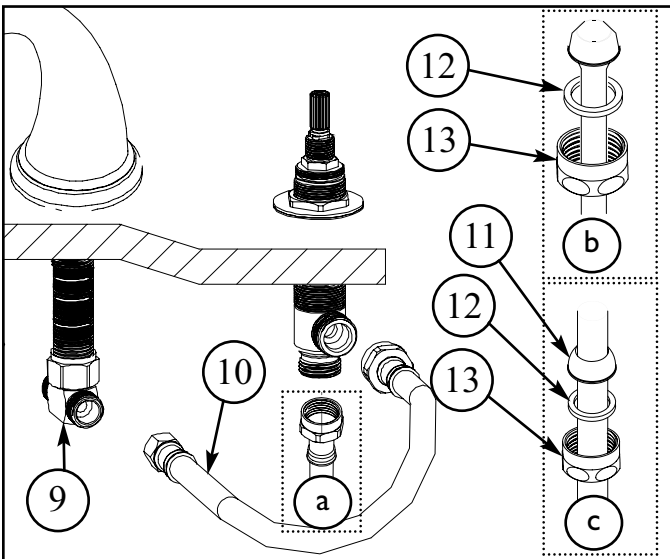
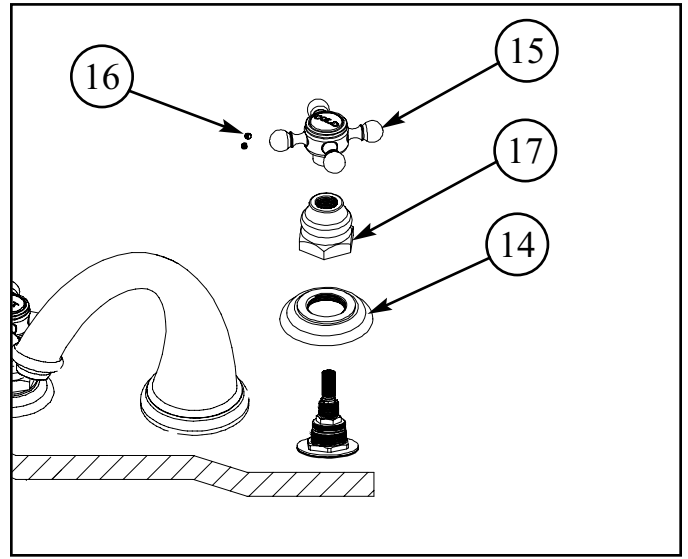

Figure 3
Figure 4
4. Connect large end of flexible HOSE (10) to side outlet of each valve BODY (7). Attach other end of HOSE (10) to either side of the TEE (9). (Hand-tighten and secure each connection with a wrench ¼ turn.) See Figure 3.
5. Connect hot/cold water supply to appropriate 1/2" NPSM valve BODY (7), utilizing one of the three following types of risers. Supply risers not included. See Figure 3.
- a. 1/2" IPS flexible riser: discard rubber nosecone WASHER (11), friction WASHER (12) and coupling NUT (13).
- b. 3/8" or 1/2" OD bullnose riser: utilize friction WASHER (12) and coupling NUT (13).
- c. 1/2" copper riser: utilize rubber nosecone WASHER (11), friction WASHER (12) and coupling NUT (13).
6. Attach ESCUTCHEON (14), BONNET (17) and HANDLE (15) to cartridge. Secure handles into place with SETSCREW (16). Any adjustments for rotational alignment must be made to the valve BODY (7) - not to the cartridge. (Note: Allow minimum spacing between HANDLE (15) and BONNET (17) to prevent damage to the surface finish.) See Figure 4.